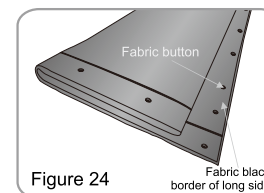

Figure 24
- Take off the fabric from the frame by releasing the buttons (Figure 24). Clean the fabric if necessary. Double up the fabric along the short sides as Figure 24, then double up again as Figure 25. (100" fabric double up thrice, 120" and 150" fabrics double up quartic.) Then double up again as Figure 26 indicates. Leave the black border alone in case of scratch. (two operators are required.)